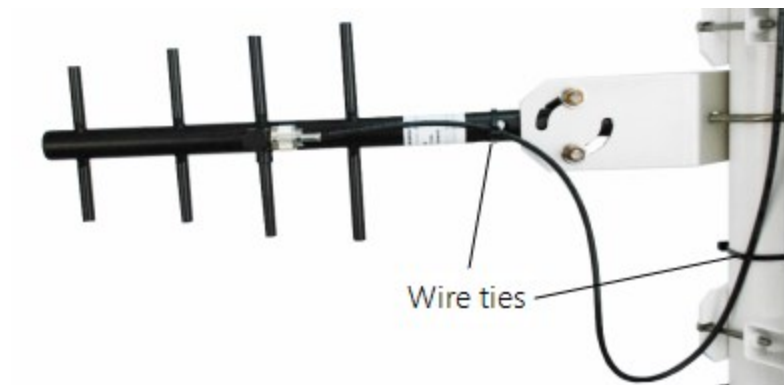

FIGURE 6-34. Wire tie antenna cable to Yagi antenna and to pole
- h. Take one black wire tie and strap the antenna cable to the antenna (FIGURE 6-34 (p. 51)). Leave a little slack on the cable between the wire tie and the antenna connector so as not to stress the connector/cable connection.
- i. Make sure a loop of antenna cable is directly under the Yagi antenna. This will act as a drip loop and allow moisture to run off the antenna and cable (FIGURE 6-34 (p. 51)).